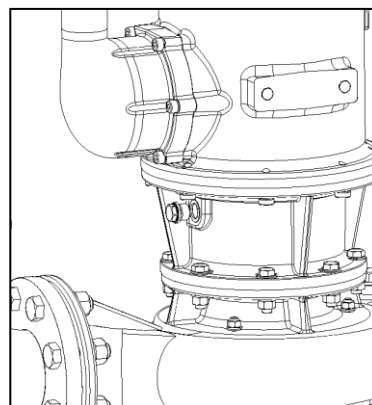

Figure 11
4. Screw-in the screw plug (34 Nm) and seal it with an appropriate sealing agent (figure 11).